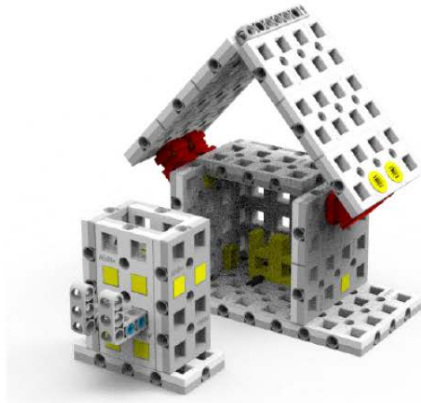

Figure 3-4-2 Waste Transportation Task Model Finished Status
3.4.2 Finished Status 1: Pull the transport device out of the temporary storage station, as shown in Figure 3-4-2, (40 points).